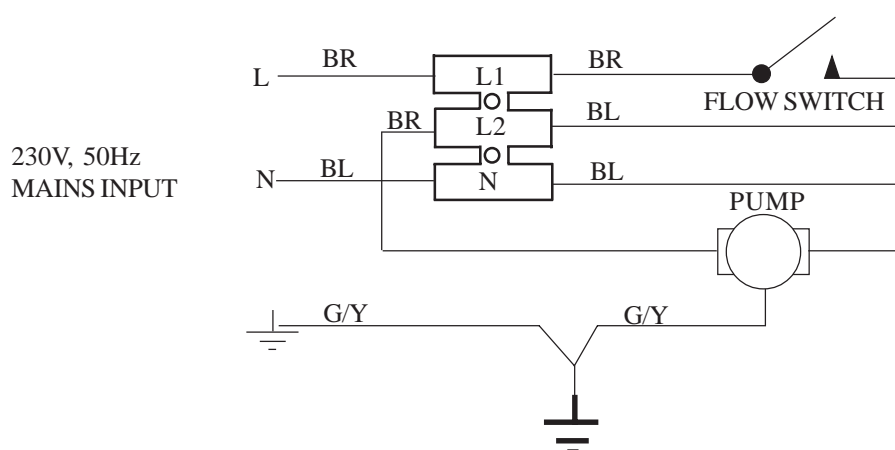

Fig. 3
- 2.4.2 The unit must be separately isolated from the mains supply by means of a fused double pole switch with a contact separation of 3mm minimum at each pole, and is to be wired as shown in Fig. 3